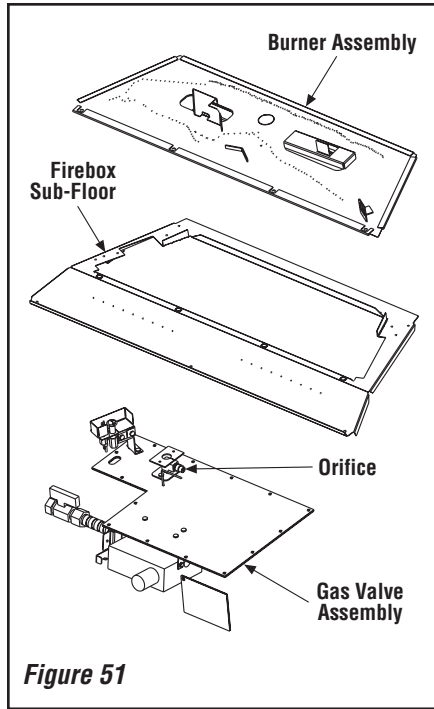
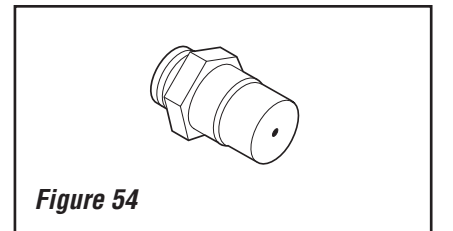

Figure 51
Figure 54
Step 4. Refer to *Figure 51*.
Step 13. (Refer to **Figure 51**) Remove the orifice from the manifold and replace it with the one provided in the kit. See the following table for orifice sizes for natural and propane models. **Figure 54** illustrates the orifice. Always check and verify orifice size.